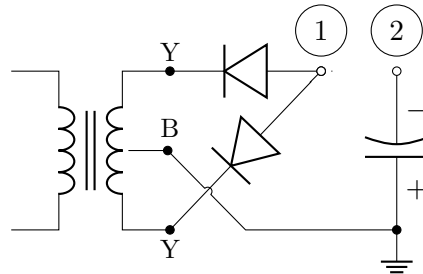

Figure 4: Full-wave rectifier circuit
- Measure the voltage at terminal ① (relative to ground) and sketch the rectified voltage
- Connect terminals ① and ② using a patch cable and then measure and sketch the filtered waveform at the ①-② node
- Add another patch cable between terminal ③ and the ①-② node to complete the circuit, which is a DC voltage supply with regulation provided by the Zener diode. Measure the output voltage waveform (across the Zener) using the scope. Figure out how to measure the current in the Zener diode as a function of time. Make sketches of the output voltage and the current in the Zener diode.
5. Now construct the full-wave rectifier in Fig. 4 using the center-tapped transformer outputs. Measure and make sketches of the waveforms at terminal ① alone and with terminals ① and ② connected. How do these compare to your measurements for the half-wave rectifier circuit in steps 4(a)-(b)?